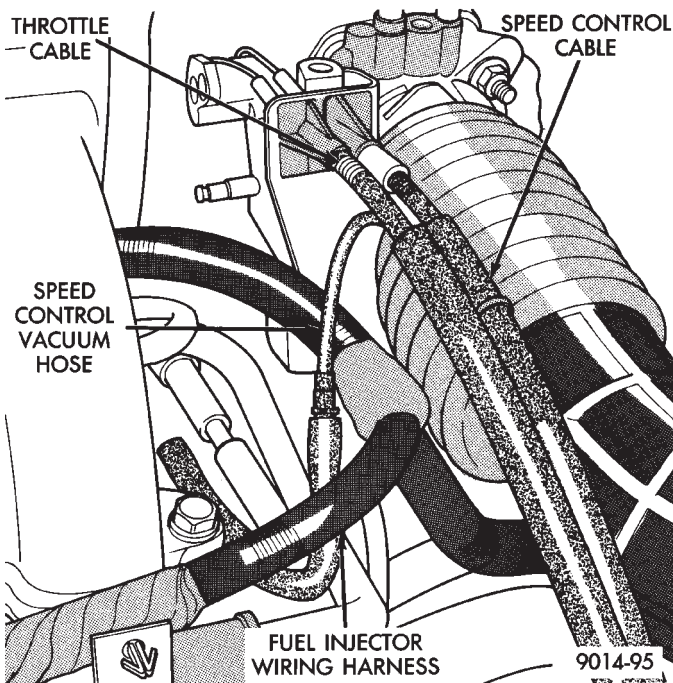

Fig. 18 Speed Control Vacuum
(32) Check the speed control vacuum connection (Fig. 18).